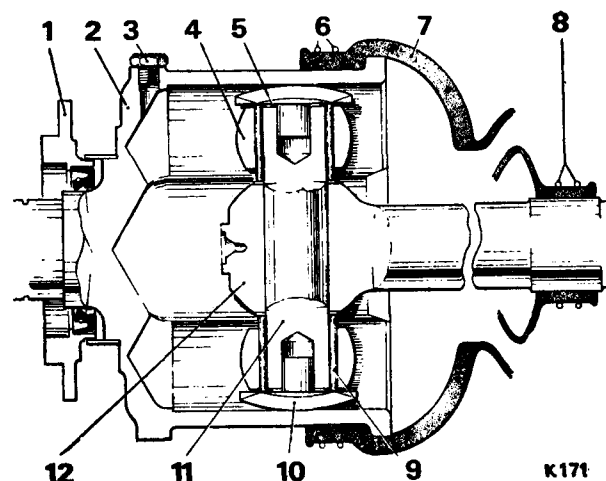

FIG. J15 HALF-SHAFT BALL AND TRUNNION JOINT
5. Remove the trunnion buttons, adjusting washers, bearing outer races and needle rollers from the trunnion pin (see Fig. J15). Keep each assembly separate from the other and note from which side of the pin each assembly has been removed.